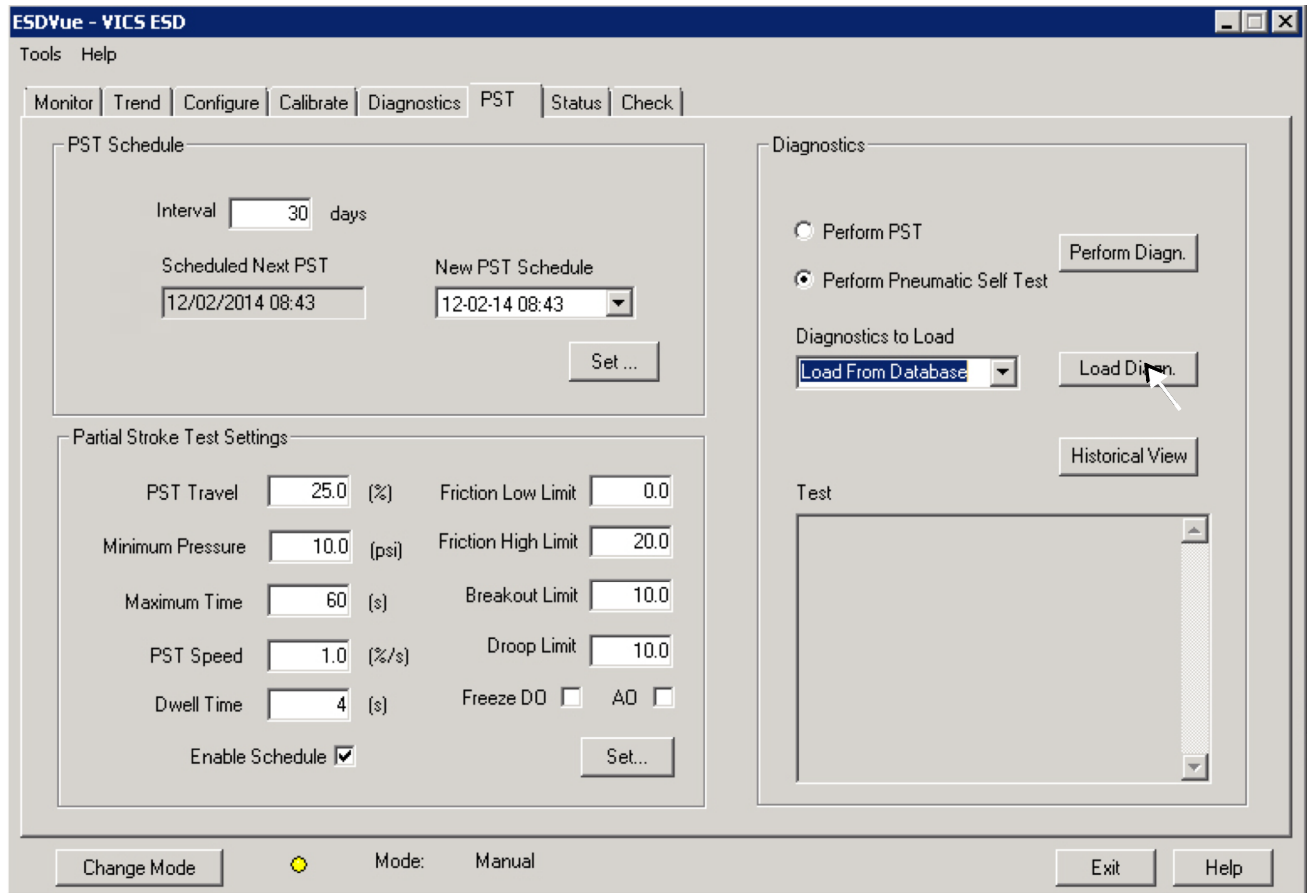

Figure 284 - Launching Load Data from Database
2. Click **Load Diagn** (*Figure 284*).